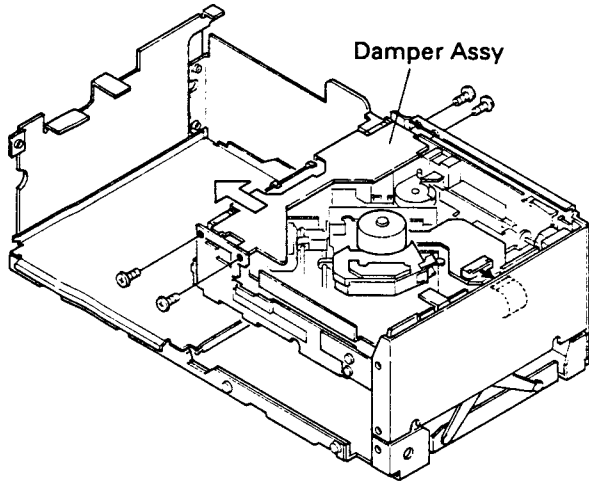

Fig. 9
- 13. Disconnect the connector and detach the P.C. Board. (Fig. 9)
- 14. Remove four screws and detach the damper assy. (Fig. 9)
4. Install the P.C. Board on the connector. (Fig. 9)